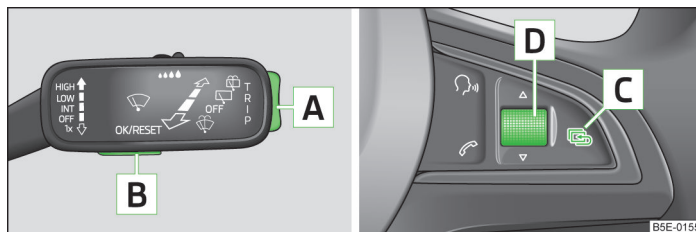

Fig. 9 Buttons (adjustment wheel) on the operating lever/multifunction steering wheel
If you wish to determine the average fuel consumption over a certain period of time, you must set the memory at the start of the new measurement to zero » Fig. 9 on page 26.
- Briefly press the rocker switch [\[A\]](#) » Fig. 9 up or down.
- Turn the adjustment wheel [\[D\]](#) » Fig. 9 upwards or downwards.
➤ Press the button **B** or the adjustment wheel **D** » Fig. 9 on page 26 briefly.
➤ Press longer on the button **B** or adjustment wheel **D** » Fig. 9 on page 26.